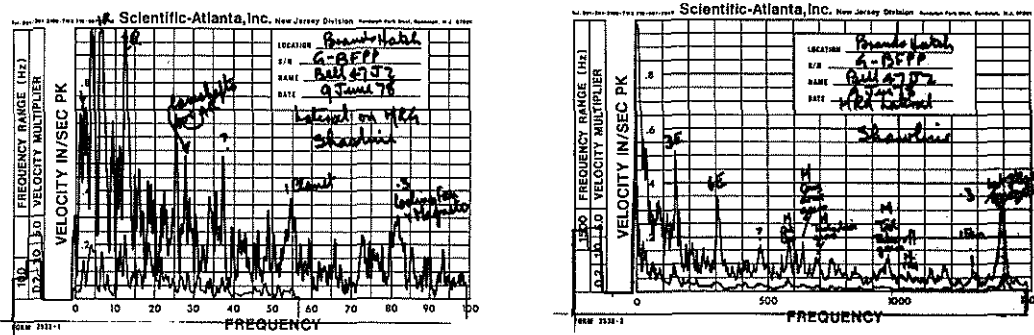

Fig. 6
a. Bell 47J2 Main Rotor Gearbox. (Fig. 6). These cards show the extremely unhealthy state of the gearbox. Almost every gear and shaft is showing damage with the 1st stage epicyclic the most worrying. After dismantling the box the following faults were observed:
- (1) Lower sun gear alignment bearing spinning.
- (2) Clutch shoes worn out.
- (3) Clutch bearing U/S.
- (4) Fan drive gear teeth severely pitted.
- (5) 2 out of 4 gimbal pin bearings U/S.
- (6) 1st stage epicyclic gears heavily worn.
- (7) 1st stage epicyclic planet bearings heavily worn.